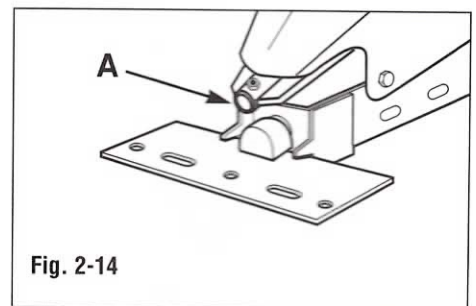

Fig. 2-14
5. Center eccentric arm (A, Fig. 2-14), if necessary, by moving cutter bar lever to ON (Fig. 2-15) and pulling starter rope.